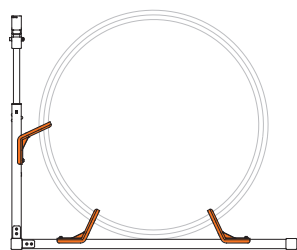

fig. 11a V-grip positioning for large bikes
- To adjust stand and **store bike in horizontal mode**, roll bike onto stand backwards until the rear tyre rests against the vertical V-grip (if one is attached). Align the two horizontal V-grips so that they both press against each end of the tyre (fig. 11a, 11b, 11c). Slide V-grip bolts to opposite ends of their slots, and tighten (fig. 12). If your rear tyre rests firmly against all V-grips, your bike is stored correctly in horizontal mode. Ensure all bolts are tightened securely. Recommended: for extra stability, secure front wheel to down tube with anchor strap (fig. 13).